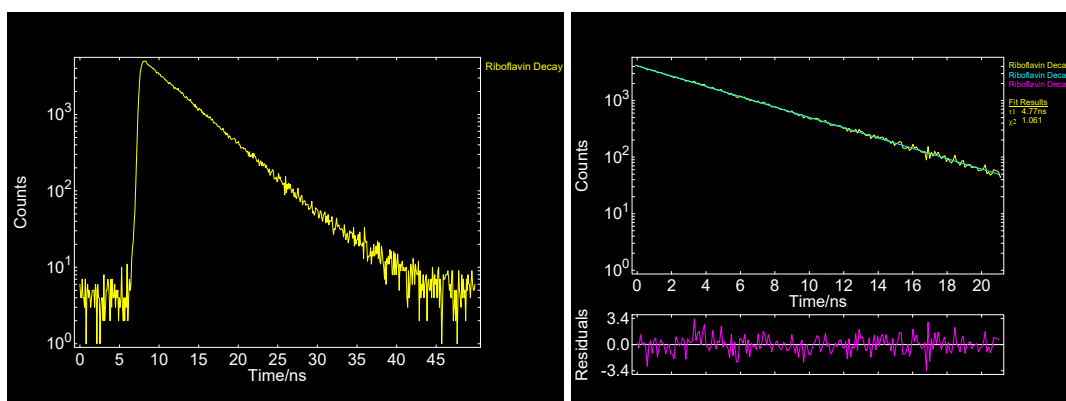

Figure 5: Fluorescent lifetime measurement from Riboflavin B (left) and exponential tail fit to the data (right) showing a 4.8 ns decay time.
- (d) Click new. The histogram of events is plotted on a logarithmic plot. Within ten seconds of measuring, you should have an idea of whether the time range chosen was suitable. Example data is shown in Figure 5.
10. Select Analyze-Exponential Tail fit. Put in an initial guess for the decay time tau, and run the fit. Fluoracle generates plots of fit data and measured data vs time and fit error vs time and displays the decay time, as shown in Figure 5.